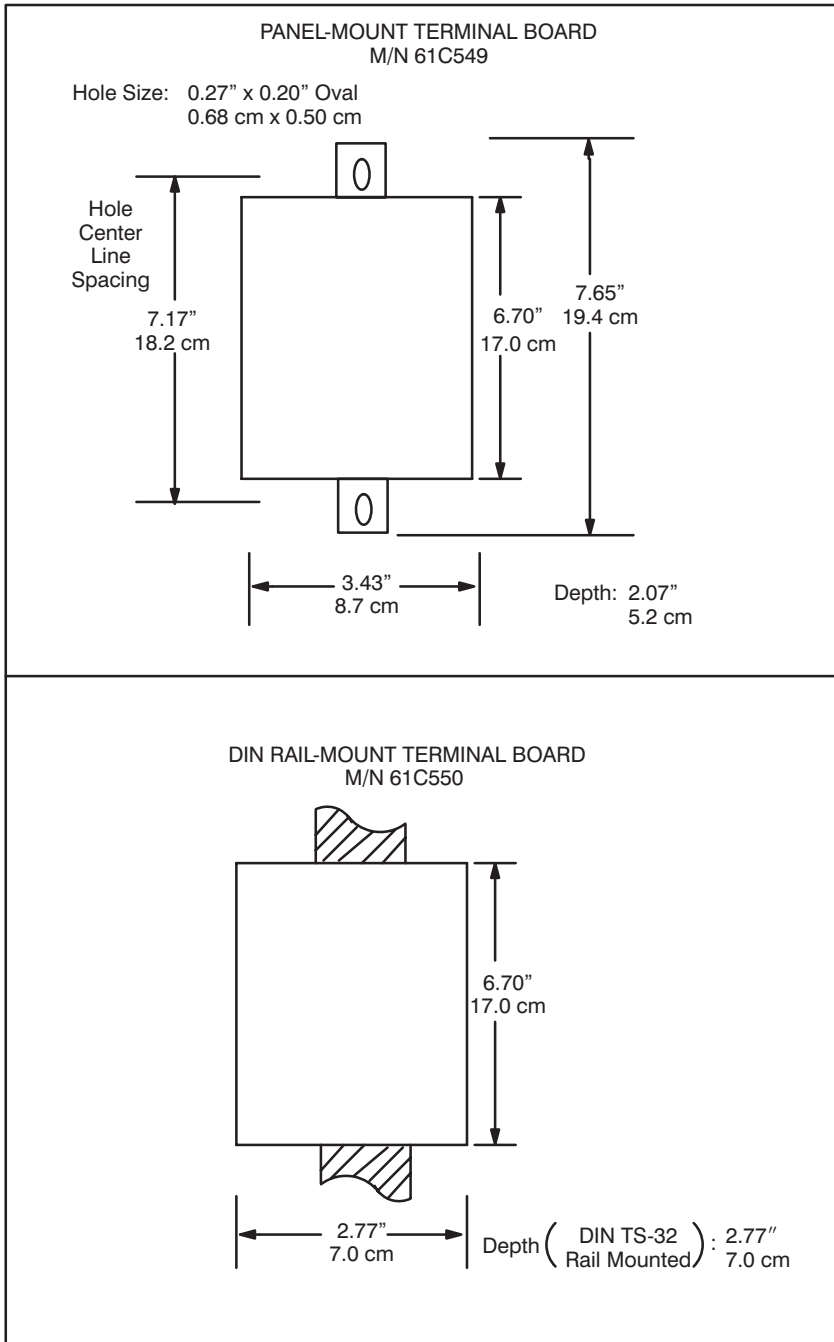

Figure 3.1 - Terminal Board Assembly Mounting Dimensions
- Step 2. Mount the terminal board assemblies on a flat panel (M/N 61C549) or a DIN rail (M/N 61C550). See figure 3.1.